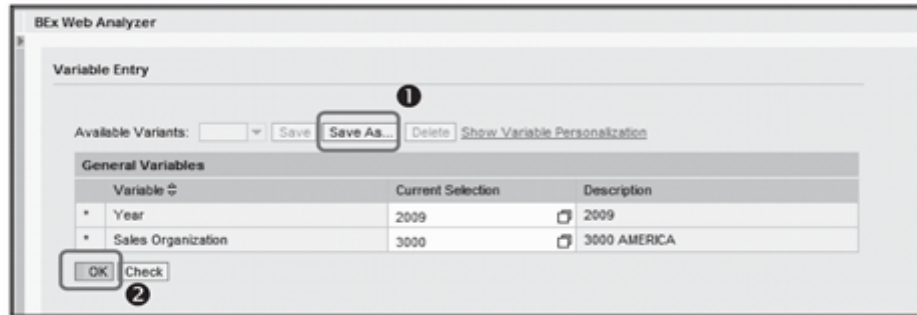

Figure 10.42 Enter Variable Values
variable entry screen is displayed where you can maintain the values of different variables (Figure 10.42). You can save this selection as a variant for future use by using the Save As button (❶ of Figure 10.42). Click on OK (❷) to run the analysis with selected variable values.